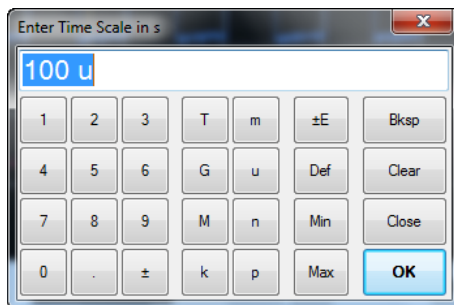

Figure 2-19 Horizontal scale keypad dialog
- 2 The horizontal scale keypad dialog is displayed as shown in Figure 2-19.